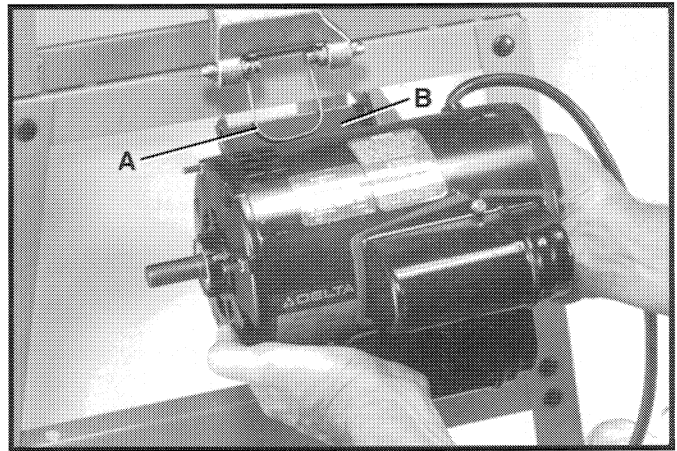

Fig. 12
1. Make certain spring (A) Fig. 12, is on top of motor plate (B) as shown.